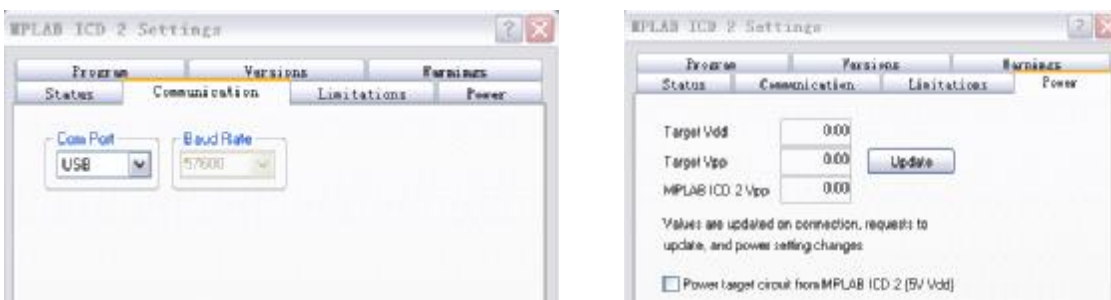

Figure 5-3 Set up communication ports and power supply for target board
- 3) Implement the menu command Debugger→Settings to select the USB as the communication port, and the board will use its own power supply (i.e. disable "MCD2 power from the target board". It is shown in Figure 5-3.